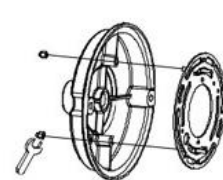

Fig 7
1. Turn OFF the main power from the breaker panel. Unscrew the cap nuts from the front of the mounting base. Remove the mounting plate from the back of the mounting base and set the mounting base and cap nuts aside (Fig 7).